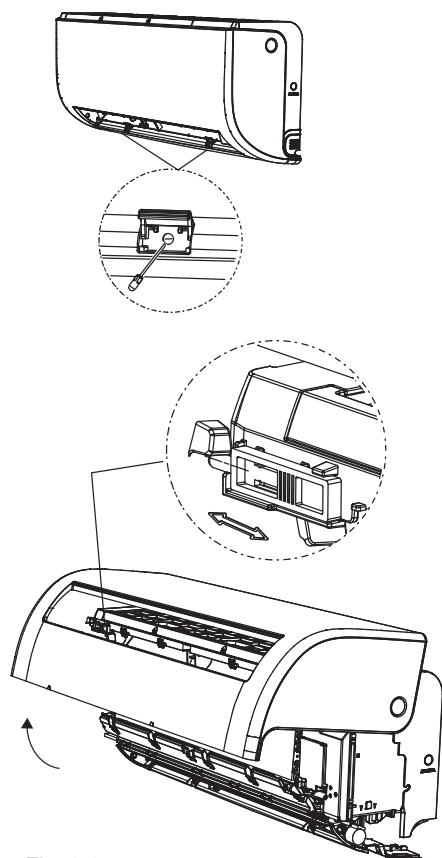

Fig. 3.6
2. Open and fix the position of the panel. Firstly, unscrew the two screws showed in the picture below, then open the panel, and fix the position of the panel by the latch (see Fig.3.6).